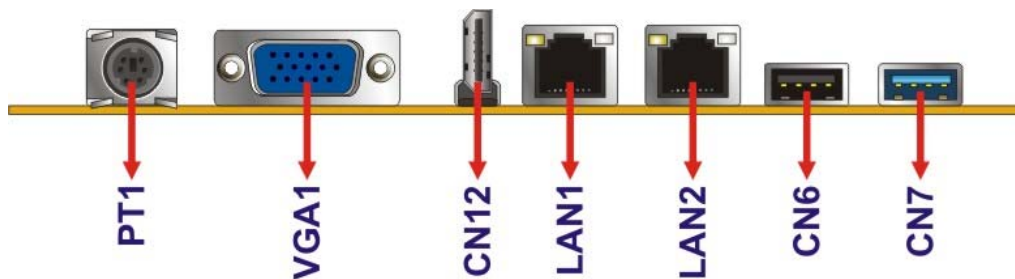

Figure 3-31: External Peripheral Interface Connector
CN Location: See **Figure 3-31**
- CN Location:** See Figure 3-31
- CN Location:** See **Figure 3-31**